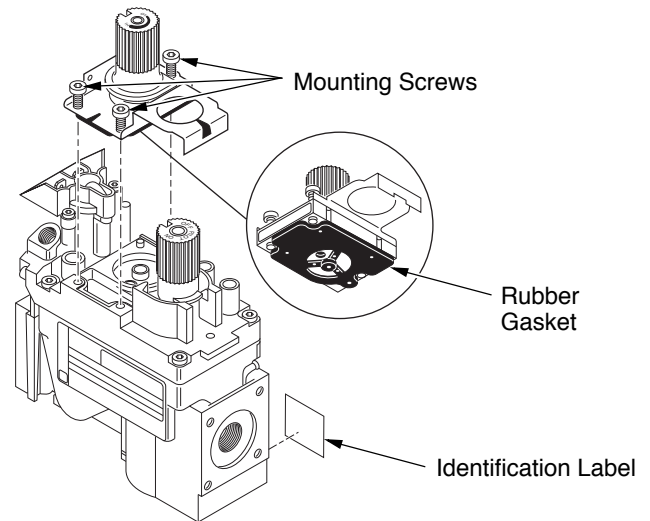

Figure 9 - Installing Pressure Regulator Assembly
2. Insure that the rubber gasket is properly positioned on the new pressure regulator assembly. Install the LP pressure regulator assembly to the valve using the new mounting screws supplied with the kit. Tighten screws securely (approximately 25 in-lbs.) (see Figure 9).
3. Install the identification label enclosed with the gas valve regulator to the valve body where it can easily be seen (see Figure 9).